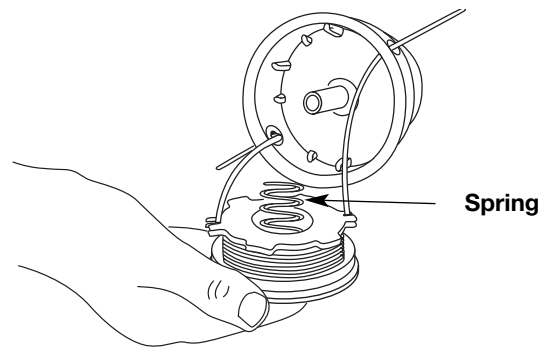

Fig. 19
13. Insert the ends of the line through the eyelets in the outer spool and place inner reel with spring inside the outer spool (Fig. 19). Push the inner reel and outer spool together. While holding the inner reel and outer spool, grasp the ends and pull firmly to release the line from the holding slots in the reel.
5. Insert the ends of the line through the eyelets in the outer spool (Fig. 19).